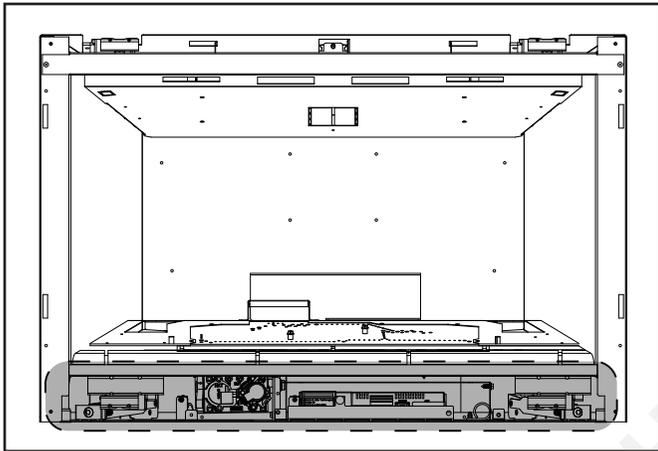

Figure 3.7 Control Cavity
- ➔ 1. Access the control cavity of the appliance. See Figure 3.7 for location. The decorative front will need to be removed.